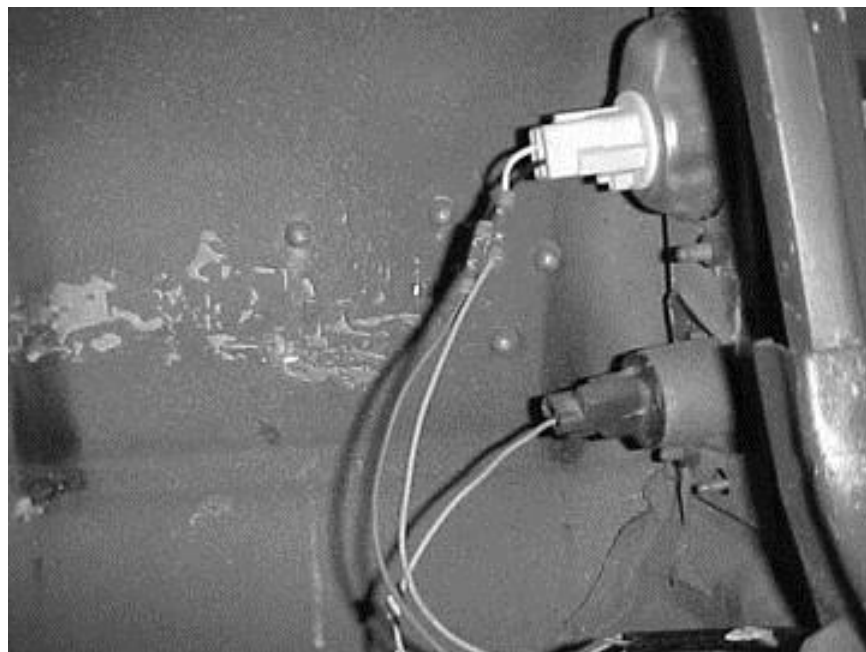

Figure 8.10 Backup and Brake/Tail Sockets
- 8.2.6** Figure 8.10 shows the backup and brake/tail light sockets. You can remove the terminals from the sockets and solder the new wires to them or you can cut off the wire coming out of the sockets and splice to them using the supplied butt connectors.